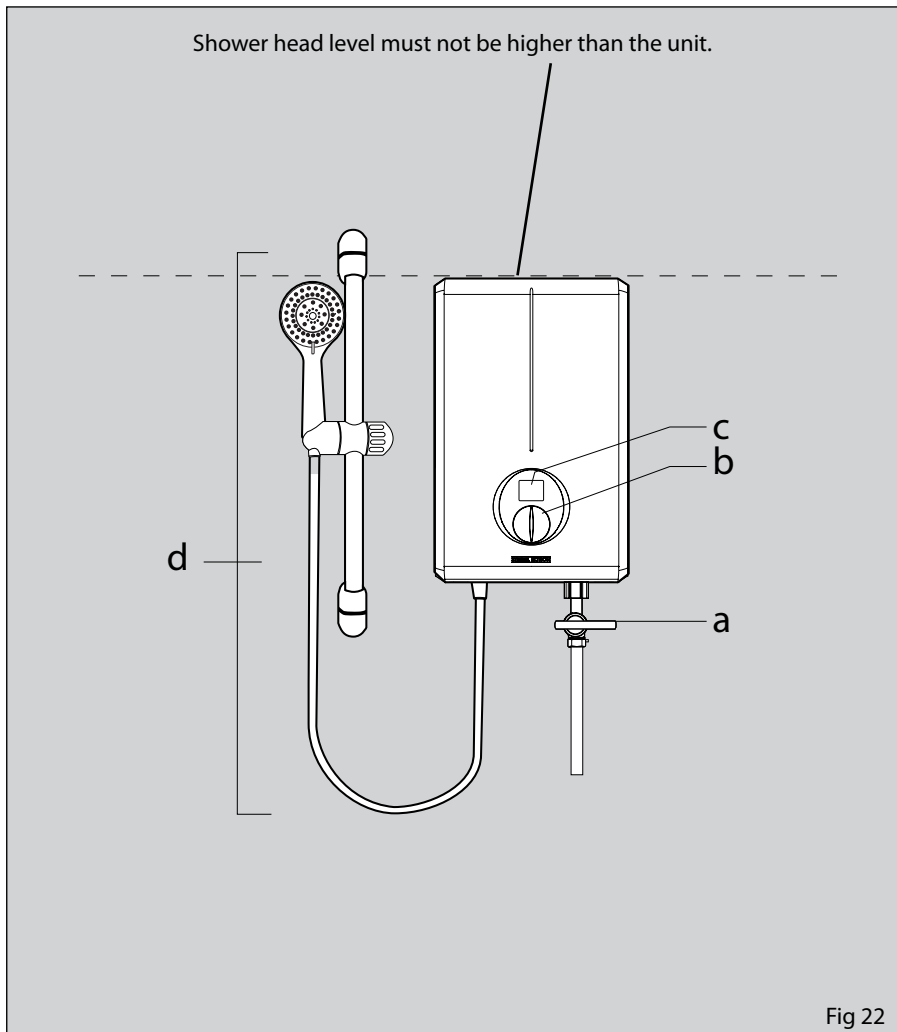

Fig 22
- Turn on the water valve. (Fig 22 # a)